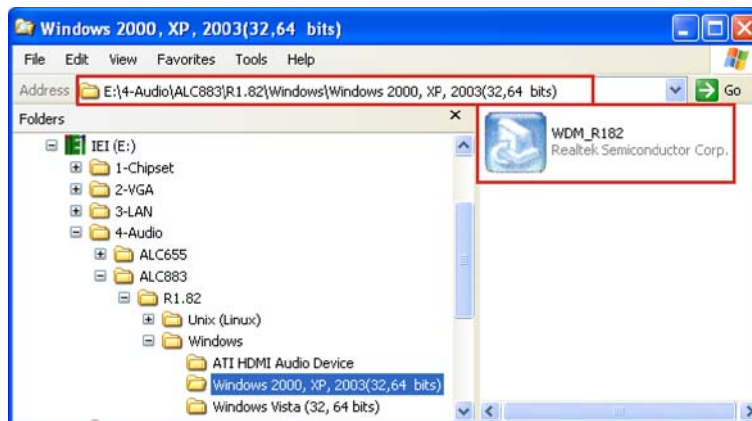

Figure 7-26: HD Audio Driver Options
Step 3: Browse to “E:\4-Audio\ALC883\Windows\Windows 2000, XP, 2003(32,64 bits)” Figure 7-26
Step 4: Double-click the installation file in **Figure 7-26**.